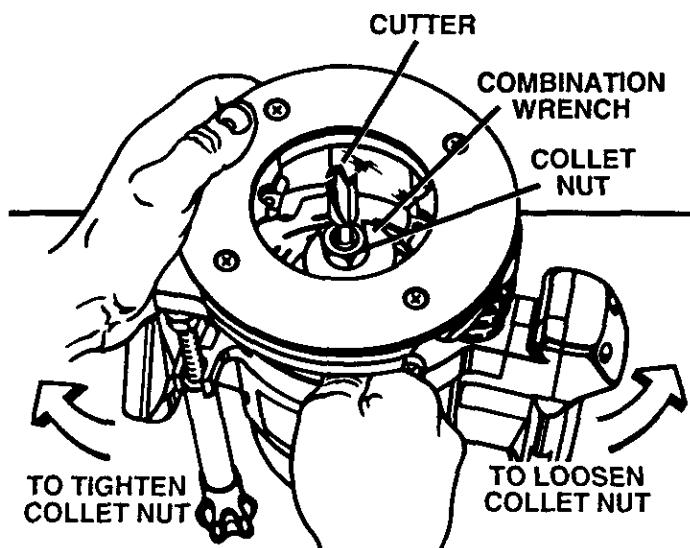

Fig. 4
■ Place 15/16 in. wrench provided through back of router base onto collet nut and turn counterclockwise to loosen. See Figure 4.
- Tighten the collet nut securely by turning with the wrench provided. See *Figure 4*.